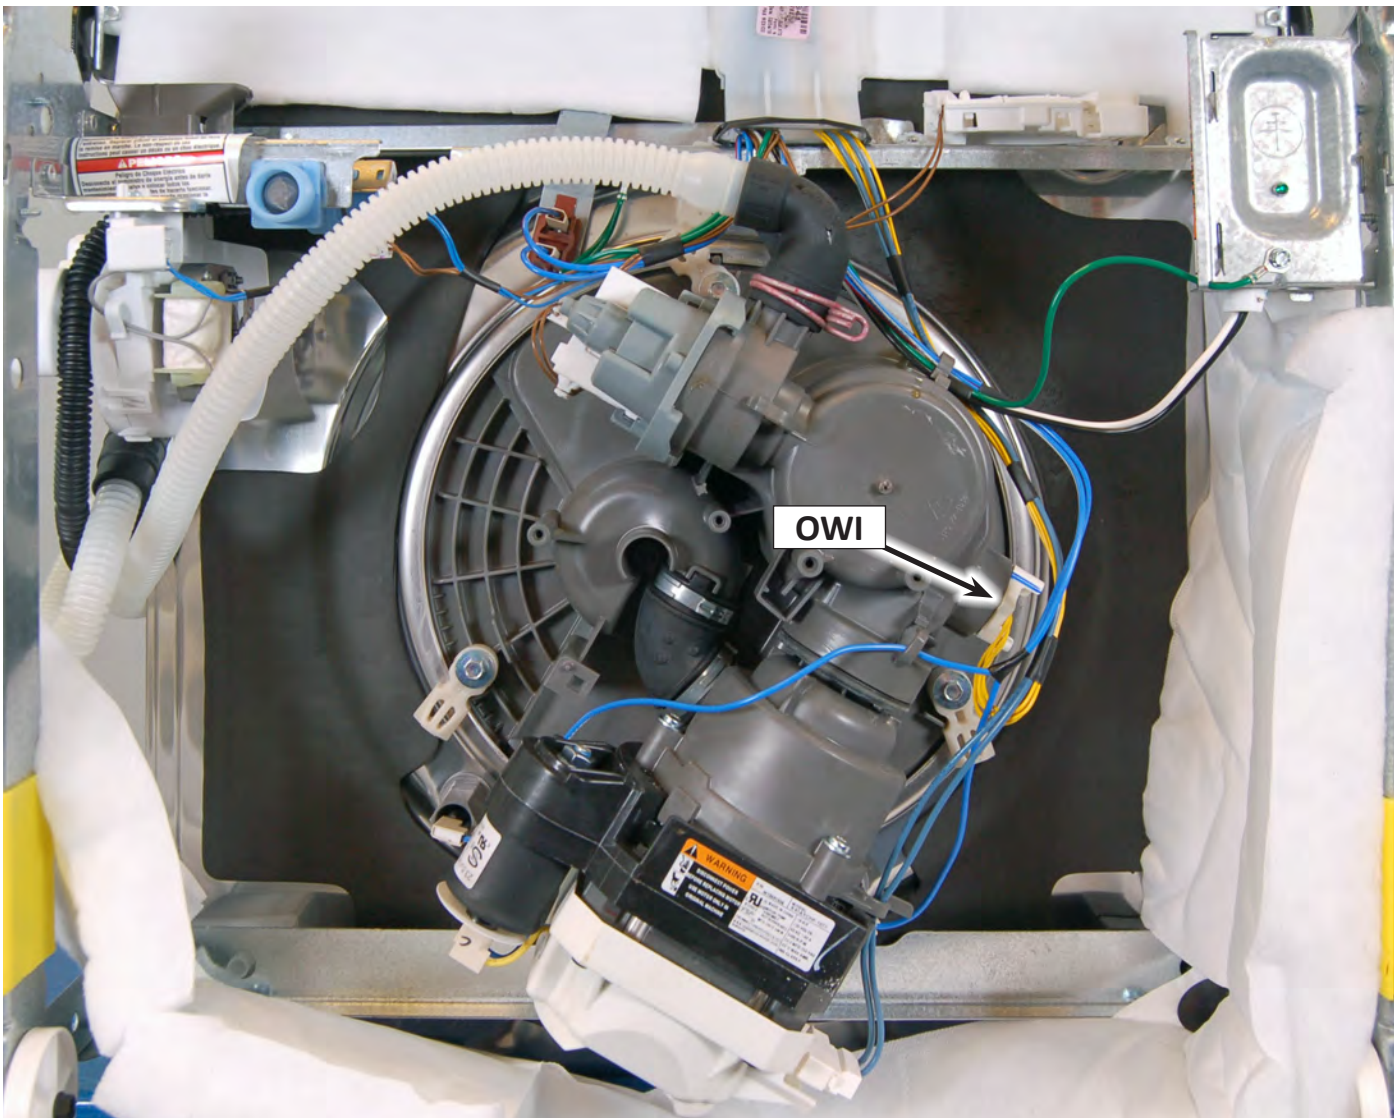

Figure 1
2. Locate OWI on bottom, right-side of sump assembly (see Figure 1).